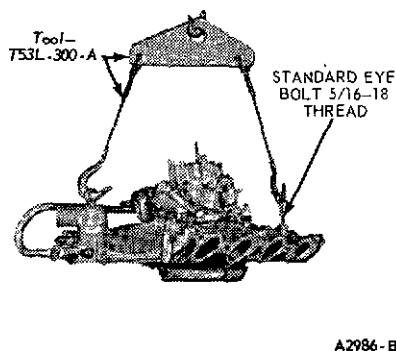

FIG. 37 Removing or Installing Intake Manifold
11. Remove attaching bolts and nuts and remove intake manifold and carburetor as an assembly (Figure 37). **If necessary to pry manifold away from cylinder heads, do not damage gasket sealing surfaces.**